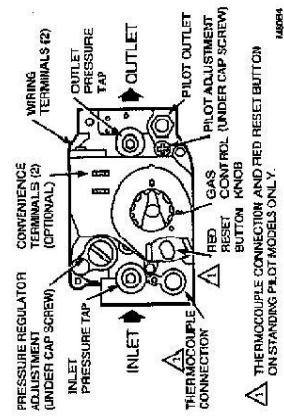

Fig. 1. Top view of VR8200 combination gas control.
- Remove outlet pressure tap plug from gas control and connect pressure gauge. Refer to Fig. 1.
2. Remove regulator cap screw and pressure regulator adjusting screw. Refer to Fig. 1.